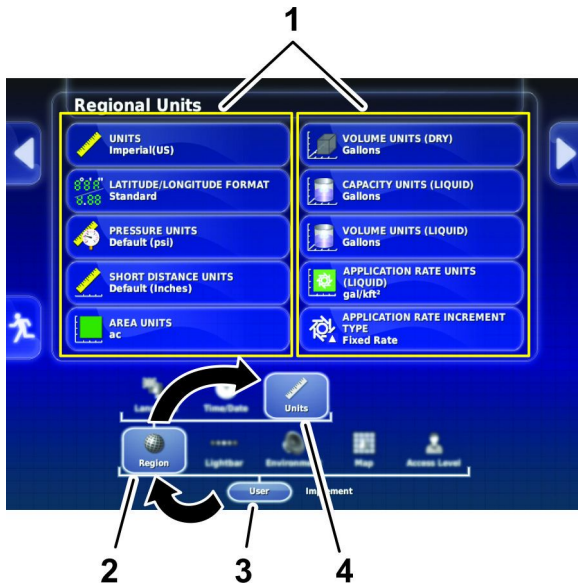

Figure 20
2. Press the USER icon (Figure 20).
3. Press the REGION icon (Figure 20).
4. Press the UNITS icon (Figure 20).